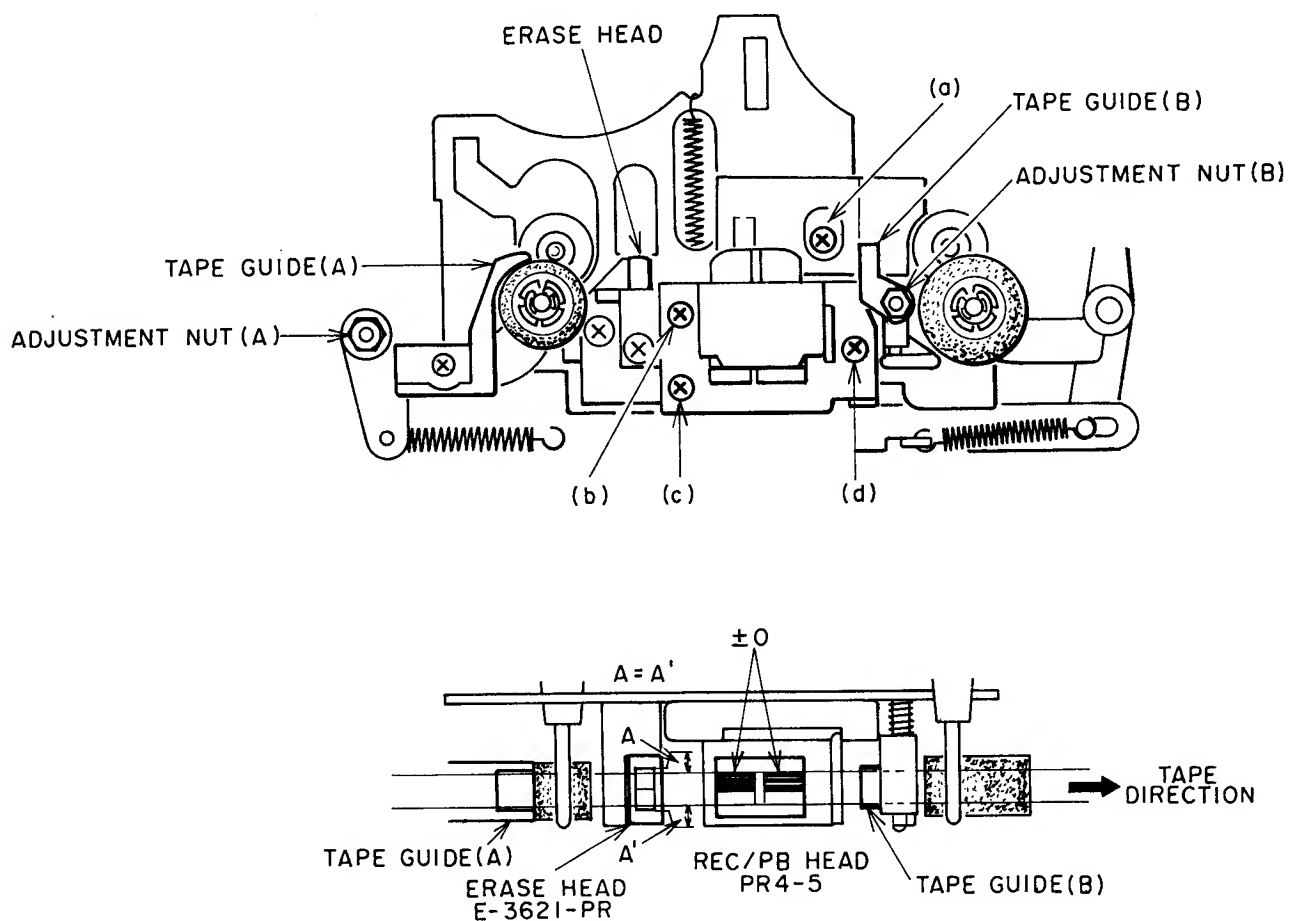

Fig. 2-13
- 2) Adjust the tape guide (A) so that the parts of the erase head coming out of both sides of the tape (A and A' in Fig. 2-13) will be equal. For the adjustment, use the adjustment nut (A).
- 3) Adjust the tape guide (B) so that the tape runs smoothly and is not hitched by the tape guide. For the adjustment, use the adjustment nut (B).
- 4) After adjustment, paint-lock the adjustment nuts (A) and (B).